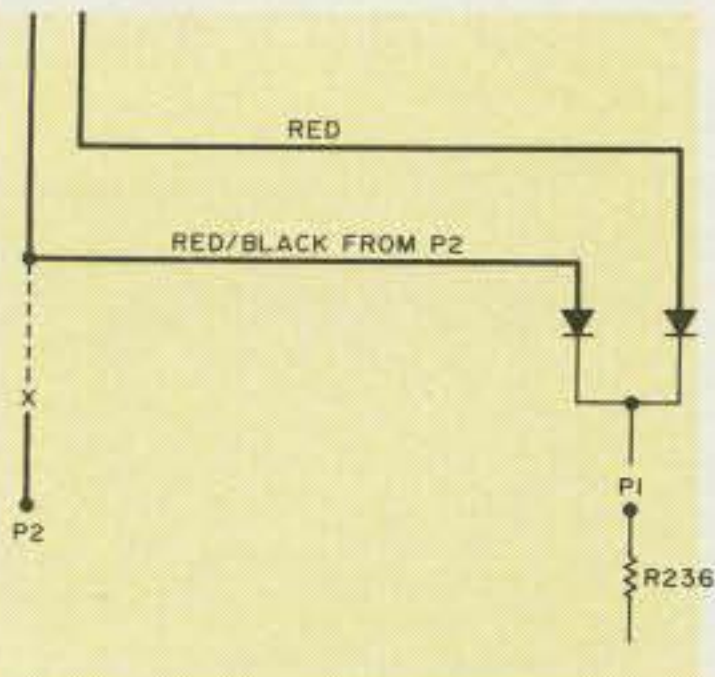

Fig. 7. Adding diodes for conversion of LSB to USB.
6. Place diodes in series with the wires and reconnect both diodes as shown in Fig. 7.